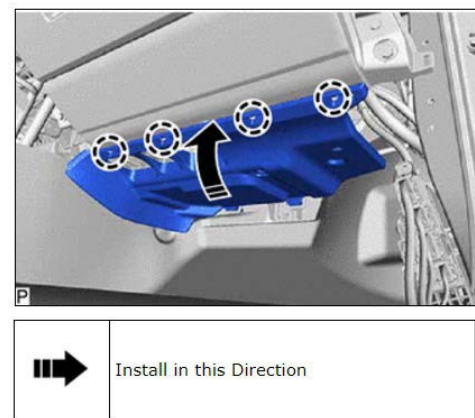

Figure 40
- (d) Engage the 4 claws to install the No.2 instrument panel under cover sub-assembly as shown in Figure 40.